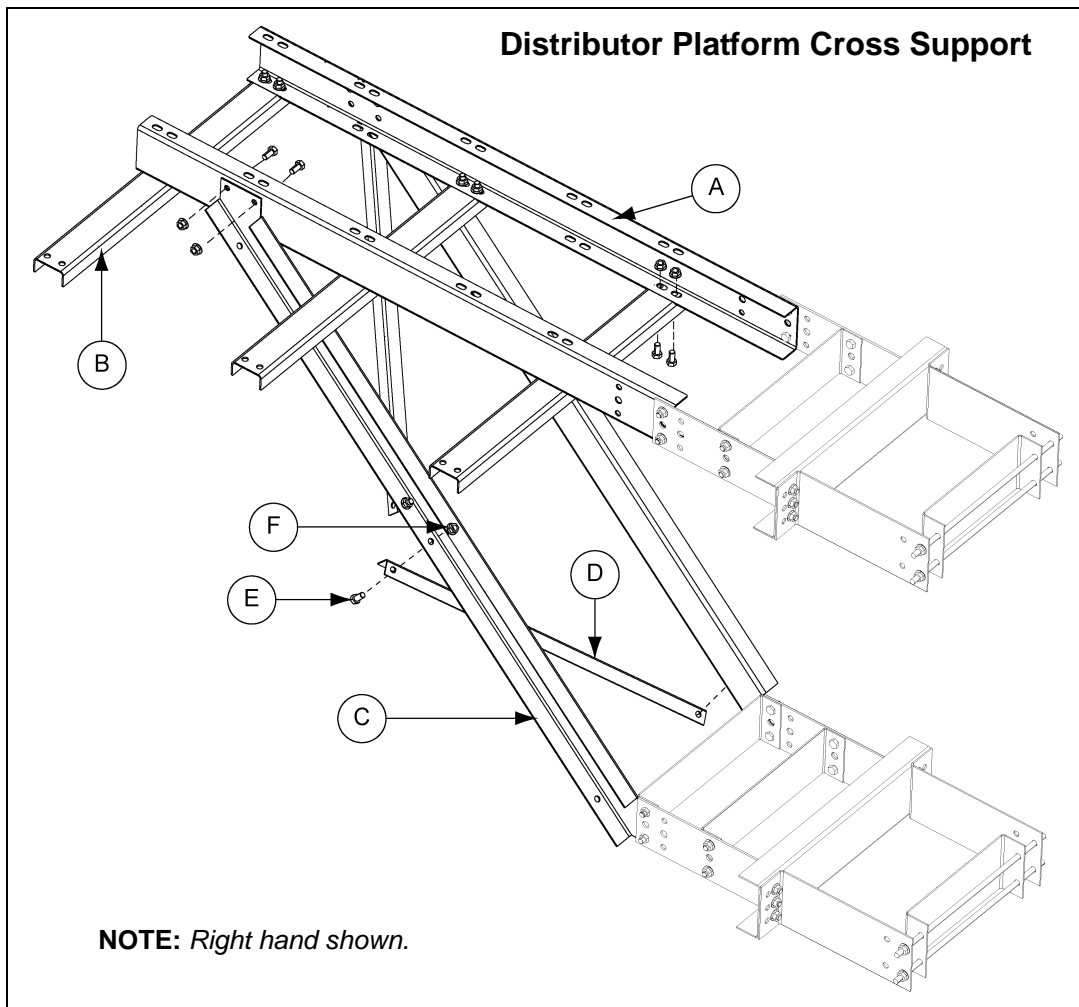

Figure 10E Distributor Platform Cross Support
1. Attach brace channels to the sides of the support channels using four (4) 1/2" x 1" bolts and nuts. Angle the knee braces across the bottom sides of the brace channels and attach using four (4) 1/2" x 1" bolts and nuts.
2. Assemble the cross supports to the bottom side of the support channels using the end and middle sets of holes on the support channels using four (4) 1/2" x 1" bolts and nuts. (See Figure 10E.)